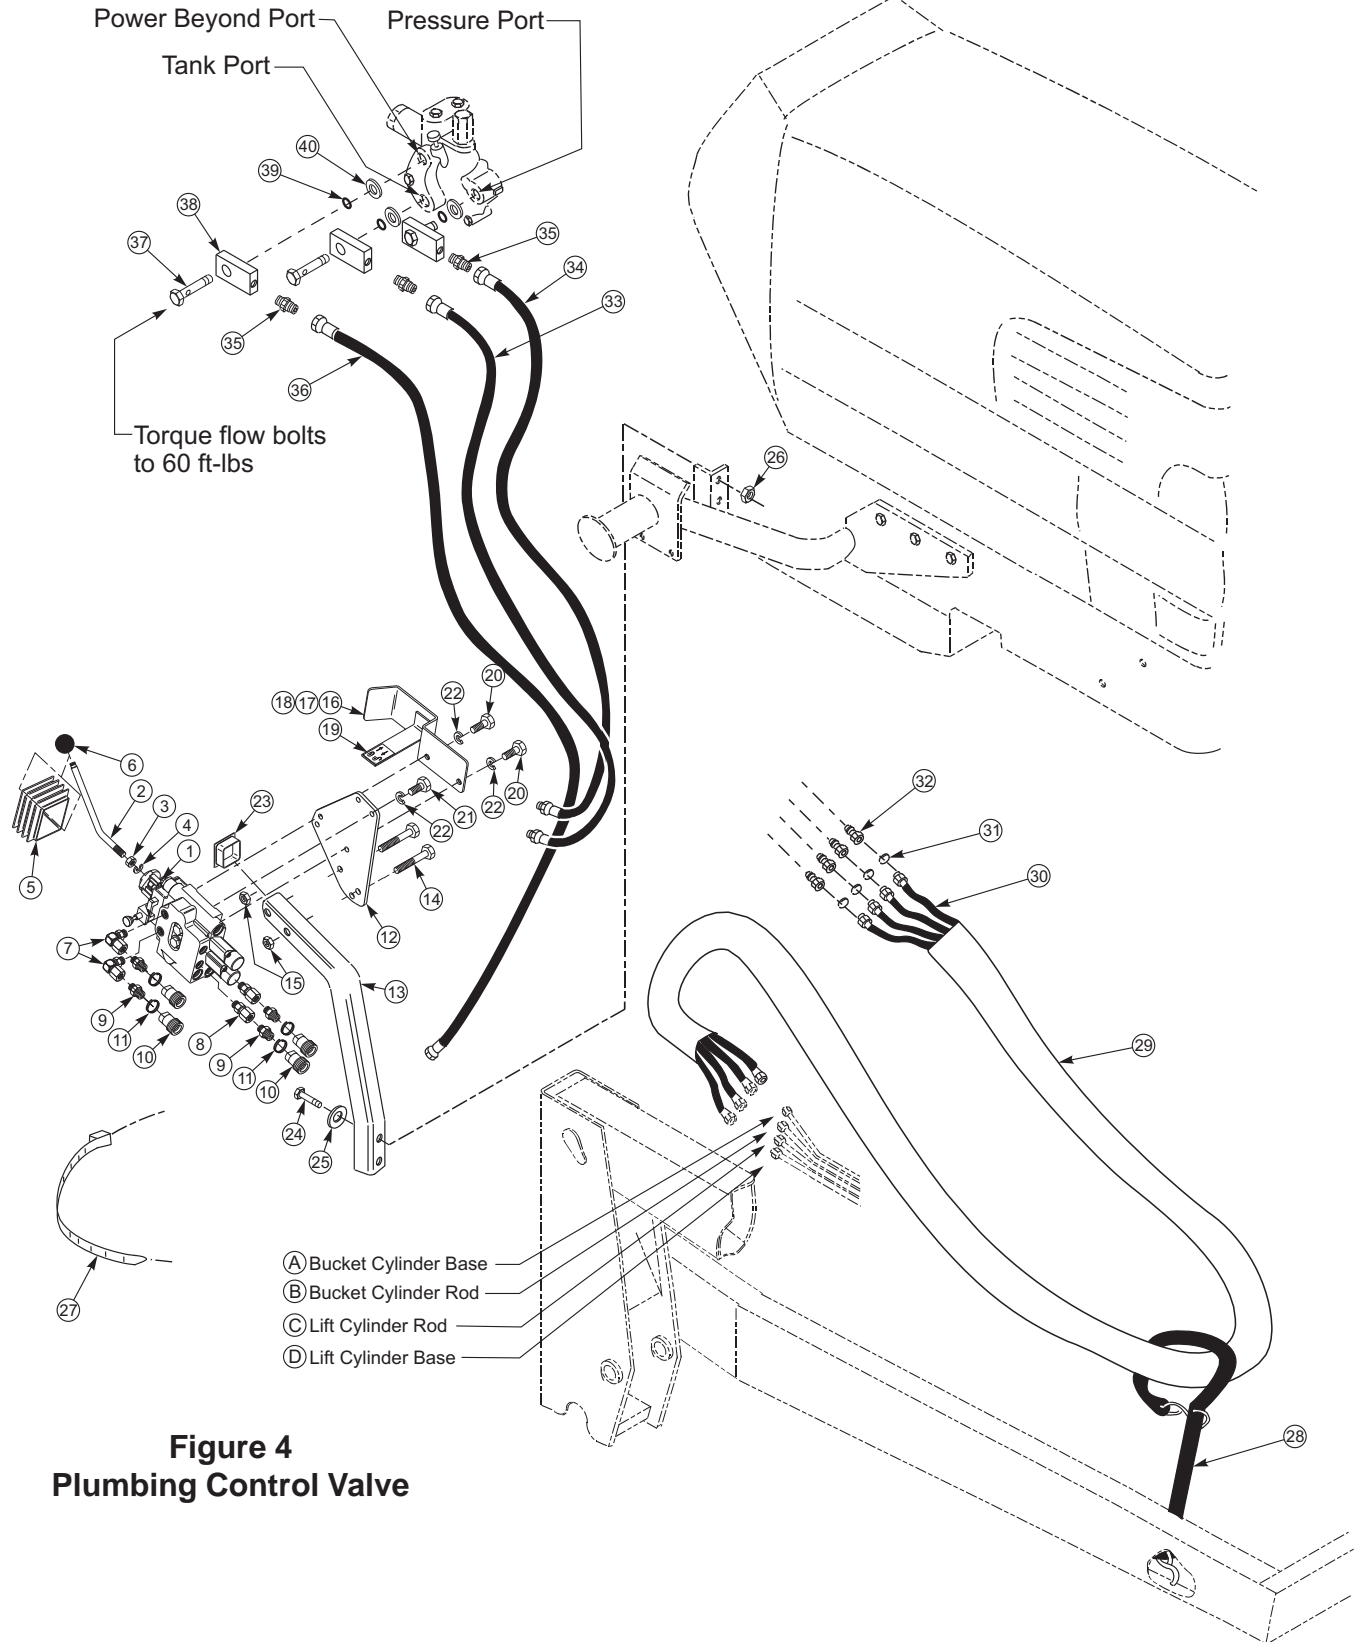

Figure 4
1. Install 114 x 60" hoses (30) onto boom oil line tubes. (See Figure 4.) Install and tighten hose fittings one at a time from the bottom up. Loosening the closest oil line clamp will ease installation.
2. Install small identification bands (31) onto free ends of hoses (30) to match bands on female quick couplers (10). Slide hose sleeves (29) over hoses (30). Install male quick couplers (32) onto free ends of hoses (30).
3. Connect hoses (30) from upper two boom oil lines to lower female quick couplers on valve and connect hoses (30) from lower two boom oil lines to upper female quick couplers on valve. Wrap tarp strap (28) around hoses (30) and hook on itself. Attach free end of rubber strap to loader right side frame. (See Figure 4)